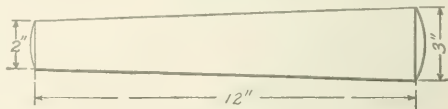

FIG. 38.
85. Taper of Keys.—In keys, cotters, and stake wedges, it is customary to express the inclinations as a certain amount per foot, or taper per foot. Thus, in Fig. 38, the inclination would be $3 - 2 = 1$ inch in 12 inches, and the taper would be, as there are 12 inches in a foot, 1 inch per foot. The taper per foot can be ascertained by the following rule,